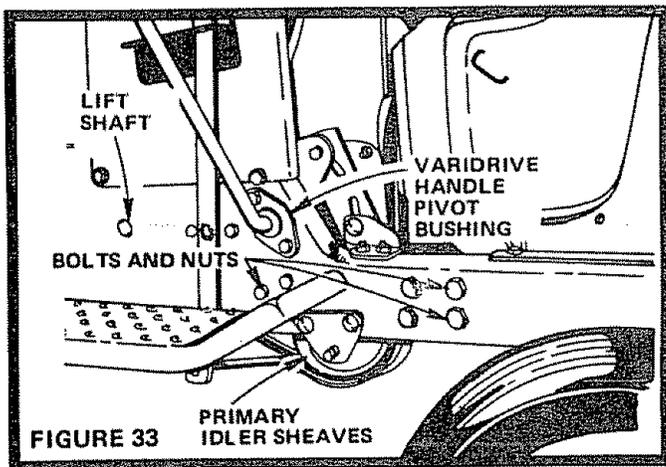

FIGURE 33 PRIMARY IDLER SHEAVES
- d. Lift Shaft (Fig. 33).
- g. Varidrive Handle Pivot Bushing (Fig. 33).
- e. Remove 3 Bolts and Nuts holding Primary Idler Sheaves to Frame (Fig. 33).